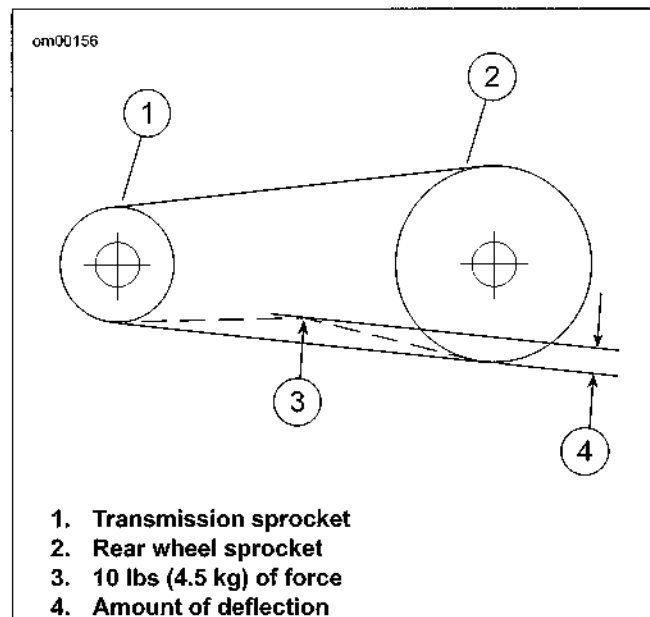

Figure 1-26. Checking Belt Deflection
- b. **All other models:** See Figure 1-26. Measure belt deflection (4) while holding gauge steady.